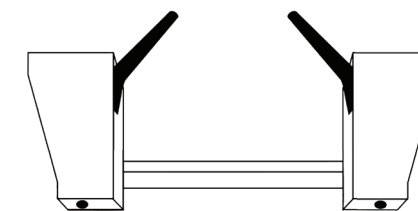

Figure 4.2a Quick Attach Mechanism - Levers Unlocked
1. Ensure the hydraulic lines are clear from the front side of the brush cutter's attachment plate and that the levers on the skid steer quick attach mechanism are in the unlocked position (Figure 4.2a).